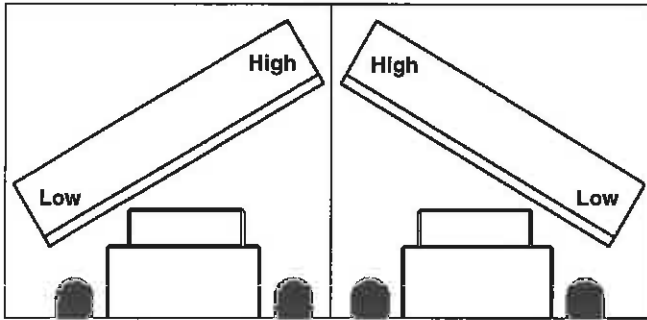

figure 28
- figure 28, turn leveling screws out.
- figure 28, extend tilt cylinders.
- figure 28, add links between the upright and loader's cross member.
- figure 28, shorten the hitch toplink.